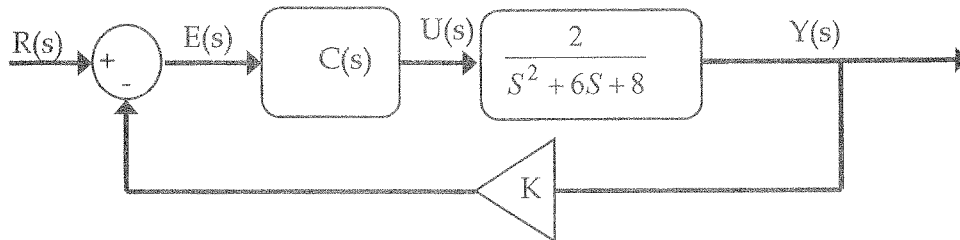

Figure Q3: The Motion Control System
- c) Motion control systems are widely used in industrial applications. Assurance of performance specifications such as peak overshoot, rise time and settling time are very important for industrial applications. A feedback loop of such a motion control system is shown in the Figure Q3.